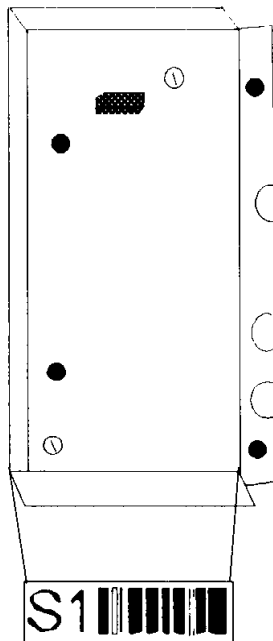

Figure 10
4. Apply the S1 label to the front of the Platen Extension Assembly as shown in Figure 10.